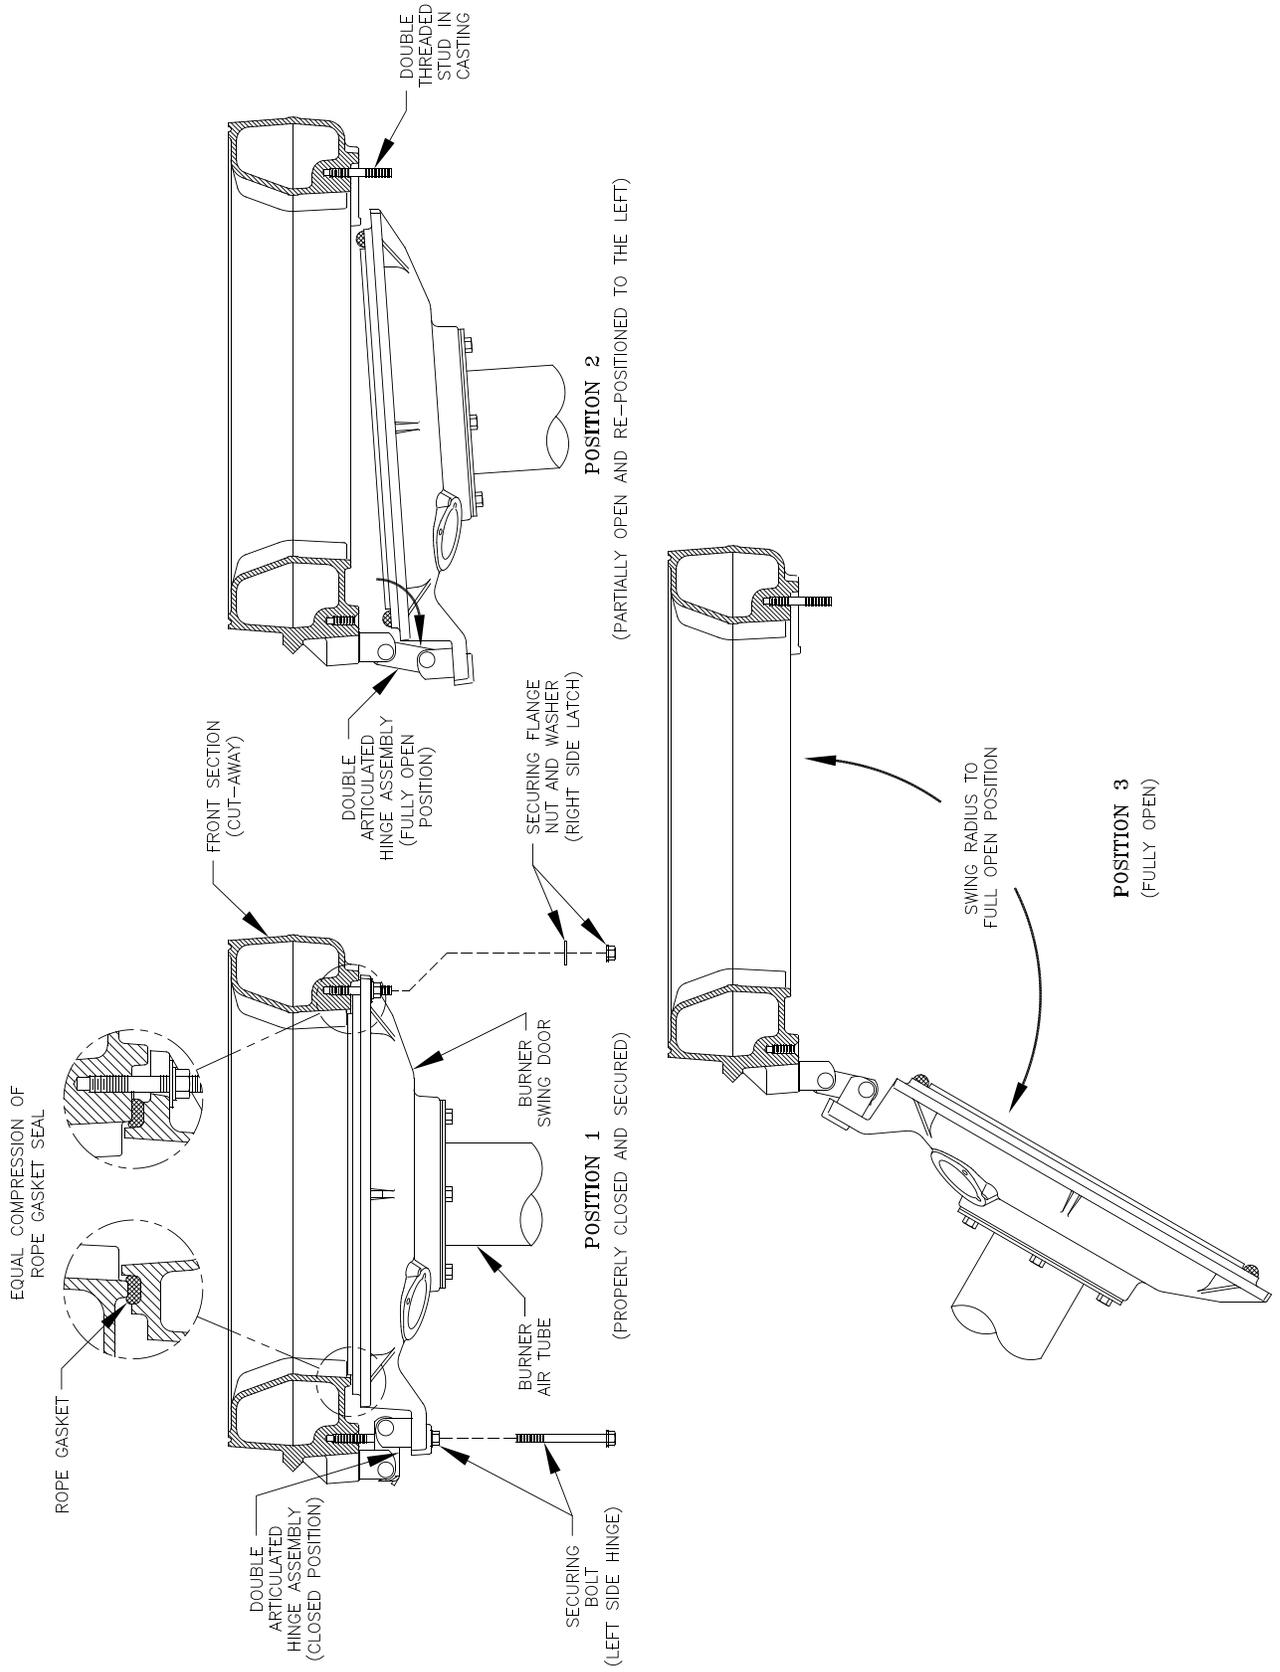

Figure 4-3: Top View - Burner Swing Door Mounted to Cast Iron Block Assembly (Jacket Removed for Clarity)
Step 3. Use a hand wrench to tighten door hardware and **always start with the right side flange nut first** (see Figure 4-3). Use an alternating tightening method from right side flange nut to left side flange bolt to tighten door equally until sealed without applying excessive torque. **Never** tighten left side flange bolt first or tighten either piece of hardware 100% without using the alternating tightening method described above.
Step 3. The duel pivot articulated hinge allows right side of door to be pulled outward and rotated to the left all in one motion. To do so, place your right hand under burner air tube and lift up slightly to help carry the weight of the door and burner. Use your left hand to grasp the door's left side hinge flange, pull outward to rotate the hinge, this motion will move the door outward and to the left approximately 3 in. (see Figure 4-3, Position 2).
Step 4. From this position the door can be swung clear of the vertical circulator return piping to provide full access to the combustion chamber and burner head (see Figure 4-3, Position 3).
Step 1. From the fully open position, rotate Burner Swing Door toward the closed position. Make sure that the articulated hinge is rotated to the extreme left position to allow the door to clear the vertical circulator return piping as shown in Figure 4-3, Position 2.